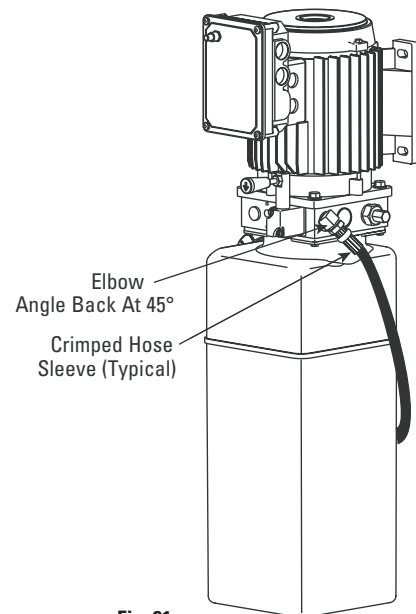

Fig. 21
- C. Install and hand tighten elbow to pump until O-ring is seated and elbow is oriented downward at approximately 45°, Fig. 21. Continue to tighten the locknut to 10-15 ft-lbs. (14-20 Nm), or until the nut and washer bottom out against the pump manifold. NOTE: You may still be able to rotate the elbow. This is acceptable unless there is seepage at the o-ring. If so, slightly tighten the locknut.